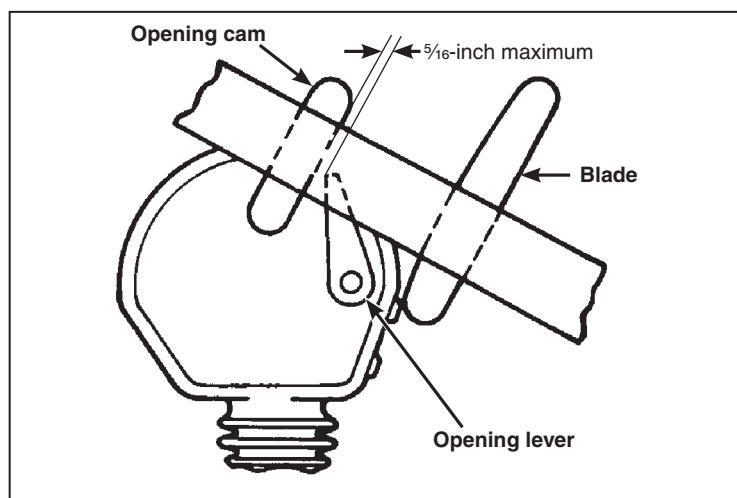

Figure 41. The blade assembly moving in closing direction.
- (a) As the blade moves in the closing direction, clearance between the blade-opening cam and the interrupter-opening lever must be within the limit shown. See Figure 41.